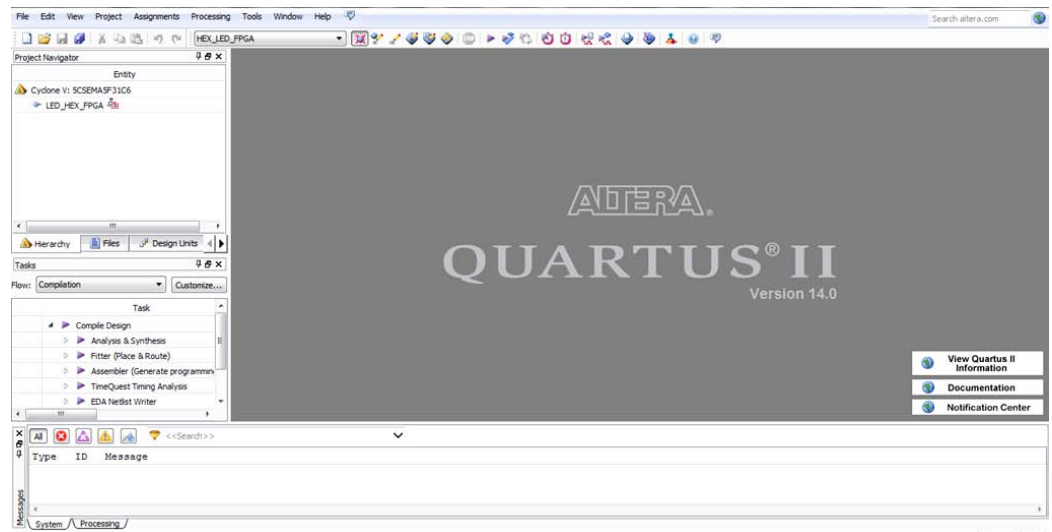

Fig. 5: Quartus II Project Workspace
- h. Your Quartus II project workspace should now open and resemble Fig. 5.